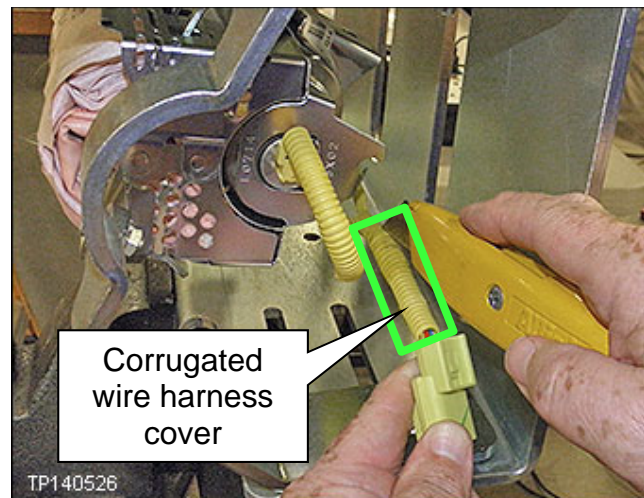

Figure 20
21. Using a suitable cutting tool, carefully cut a few inches of the yellow corrugated harness cover in the area shown in Figure 20.